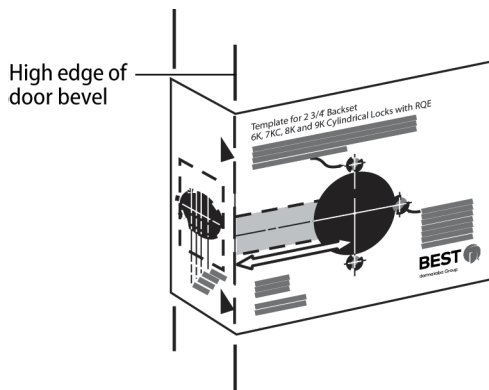

Figure 2 — Placing the template on the high side of the door bevel
- 1 Fold the template and place in position on the high edge of the door bevel as shown in Figure 2.